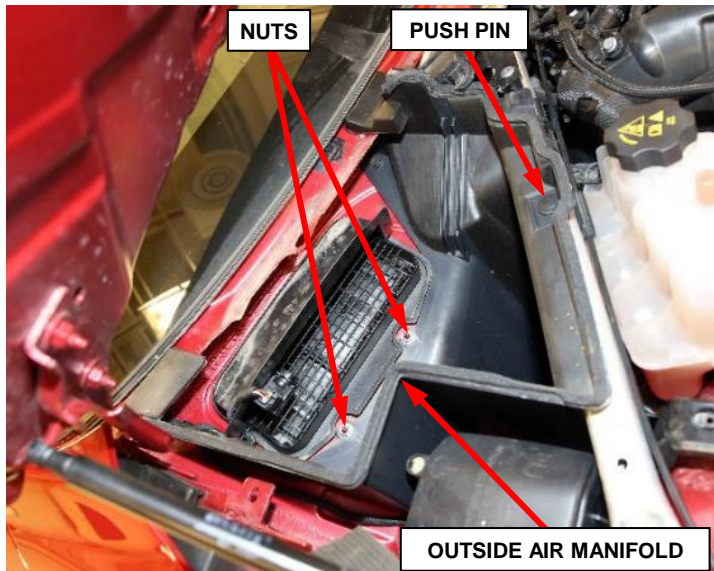

Figure 28 – Outside Air Manifold
33. Remove the push pin fastener from the outside air manifold (Figure 28).
37. Remove the fasteners securing the outside air manifold (Figure 28).
40. Remove the outside air manifold from the vehicle (Figure 28).
86. Install the outside air manifold to the vehicle (Figure 28).
89. Install the fasteners securing the outside air manifold (Figure 28).
93. Install the push pin fastener to the outside air manifold (Figure 28).